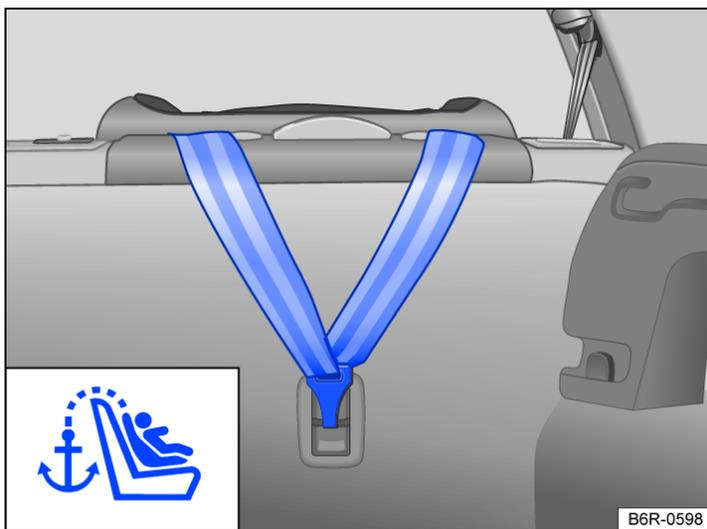

Fig. 1 In the luggage compartment: attached top tether.
The location of the ISOFIX or i-Size anchor points is shown by a symbol → *Fig. 1*.
- Guide the top tether of the child seat to the rear into the luggage compartment and hook it into the corresponding top tether anchor ring → *Fig. 1*.